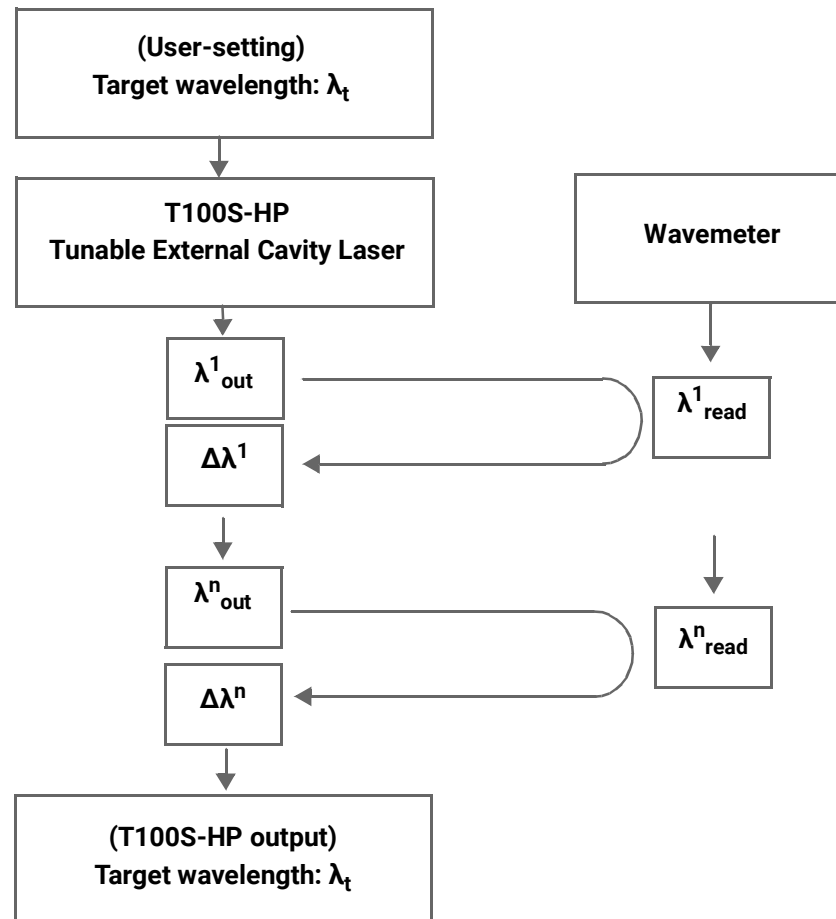

Figure 7: Wavelength Monitoring Scheme
- The T100S-HP executes the wavelength monitoring scheme (see *Figure 7, p. 40*) so that the output signal wavelength closely matches the wavelength setting. The message `Moving...` is displayed at the front-panel indicator until the output wavelength has reached the target value and has stabilized within wavemeter accuracy.